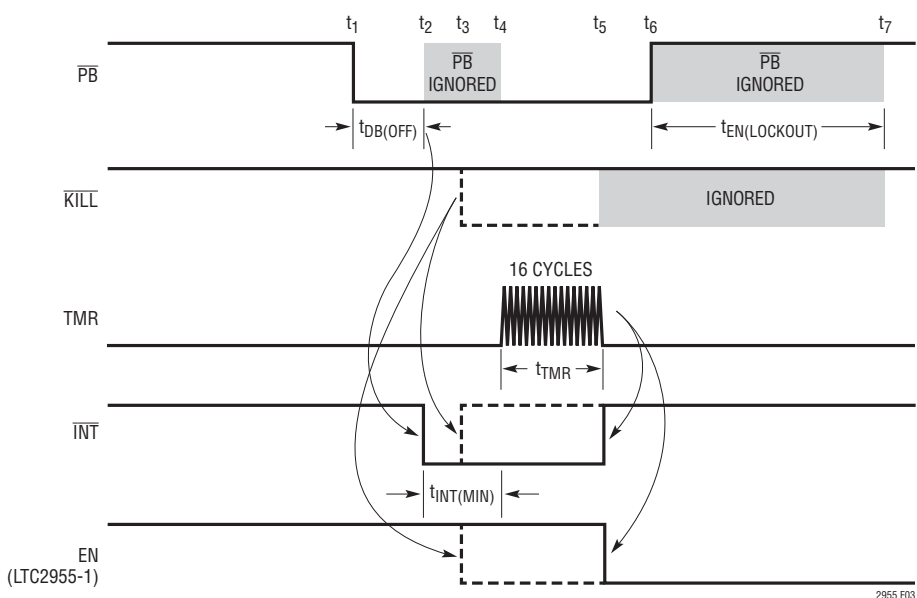
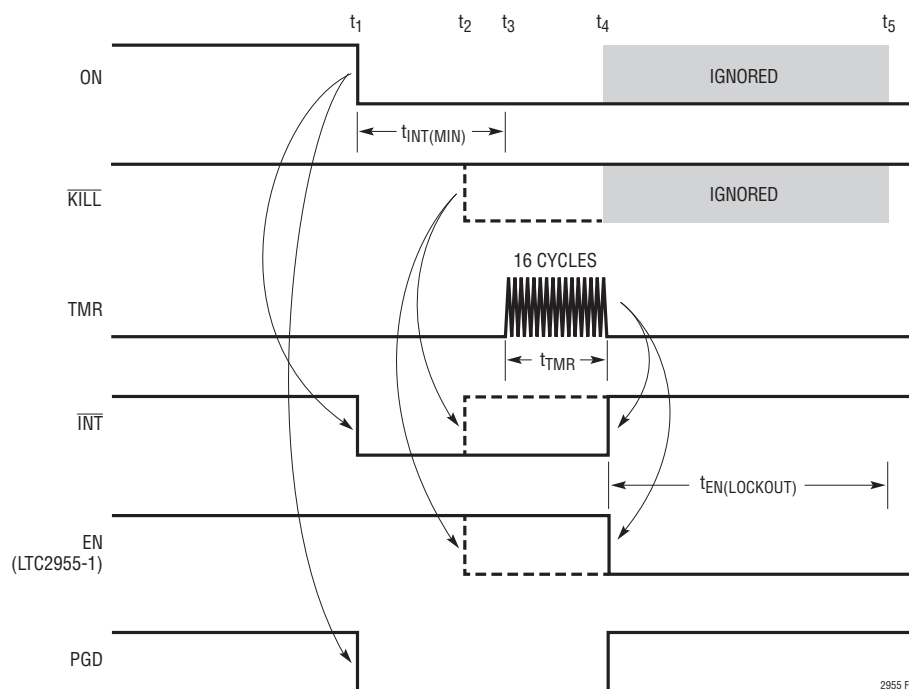

Figure 3. Pushbutton Turn-Off Timing
Figure 5. ON Pin Turn-Off Timing (DFN Only, $V_{SEL} > 1.2V$ and the Preceding Turn-On Sequence Was Initiated by the ON Pin Rising Edge)
Figure 3 shows the turn-off sequence of the LTC2955-1 initiated through the $\overline{\text{PB}}$ pin. A turn-off sequence refers to the LTC2955-1 releasing the EN output. This turns off the voltage regulator.
A high to low transition on $\overline{\text{PB}}$ (t_1) starts the turn-off sequence. In order to assert $\overline{\text{INT}}$ (interrupt output) low, $\overline{\text{PB}}$ must stay low continuously for 32ms ($t_{\text{DB(OFF)}}$). At the end of the 32ms (t_2), the $\overline{\text{INT}}$ pin is asserted low and will stay low for at least 32ms ($t_{\text{INT(MIN)}}$), even if the $\overline{\text{PB}}$ pin goes high during this period (t_2 to t_4). When the μP receives this interrupt signal, it should start to perform its power-down functions and assert $\overline{\text{KILL}}$ low (t_3) once it is done. The LTC2955-1 will then release $\overline{\text{INT}}$ and pull EN low, thus turning off the system power, as shown with dotted lines in Figure 3.
high). This can be done by holding the pushbutton down for a long period ($> t_{DB(OFF)} + t_{INT(MIN)} + t_{TMR}$) as shown with the solid lines in Figure 3. If the $\overline{PB}$ pin remains low at the end of the 32ms minimum $\overline{INT}$ pulse width ($t_{INT(MIN)}$), the external timer will start counting (t_4).
After the EN output goes low and the $\overline{PB}$ pin goes high, the LTC2955-1 starts the one second lockout time ($t_{EN(LOCKOUT)}$). During this lockout time (t_6 to t_7 in Figure 3)
Figure 5 shows the turn-off sequence of the LTC2955-1 initiated by the ON pin. The timing sequence is slightly different from that by the pushbutton as there is no debounce time ($t_{DB(OFF)}$) before the $\overline{INT}$ pin pulls low. The ON pin falling edge can start the turn-off sequence only if the following two conditions are met: (1) The preceding turn-on sequence was initiated by the ON pin rising edge, and (2) The SEL pin must be tied high ($>0.8V$). For TS8 package, the ON pin falling edge is ignored.
In Figure 5, a high to low transition at ON (t_1) starts the turn-off sequence. The interrupt output ($\overline{INT}$) is asserted immediately when the ON pin goes low. Unlike the $\overline{PB}$ pin turn-off sequence, there is no 32ms debounce time ($t_{DB(OFF)}$) for the ON pin going low. This allows the system to initiate a shutdown as soon as the monitored supply is removed and allows the μP the maximum amount of time
to perform power-down functions. The $\overline{INT}$ pin will stay low for at least 32ms ($t_{INT(MIN)}$). When the μP receives this interrupt signal, it should start to perform its power-down functions and assert the $\overline{KILL}$ input low (t_2) once it is done. The LTC2955-1 will then release the EN and $\overline{INT}$ outputs, thus turning off the system power, as shown with dotted lines in Figure 5.
If the μP fails to respond ($\overline{KILL}$ pin remains high, as shown with solid line in Figure 5) and the ON pin remains low 32ms after $\overline{INT}$ goes low, the external timer will start counting for 16 cycles (t_{TMR} , t_3 to t_4). If the ON pin remains low at the end of the 16 cycles (t_4), the LTC2955-1 will force the EN pin low and the $\overline{INT}$ pin high. See Applications Information for adjusting t_{TMR} .
The LTC2955 allows the user to force the system power to turn off if the μP fails to respond during fault conditions. As shown by the solid lines in Figure 3 and Figure 5, when the μP fails to bring the $\overline{\text{KILL}}$ pin low after the interrupt signal is asserted, the user can force a turn-off by holding down the pushbutton. The length of time that $\overline{\text{PB}}$ must be held low is given by a fixed 64ms delay ($t_{\text{DB(OFF)}} + t_{\text{INT(MIN)}}$) plus an adjustable power-down timer delay (t_{TMR}). The adjustable delay is set by placing an optional external capacitor on the TMR pin. Use the following equation to calculate the capacitance for the desired delay. C_{TMR} is the external capacitor at the TMR pin: